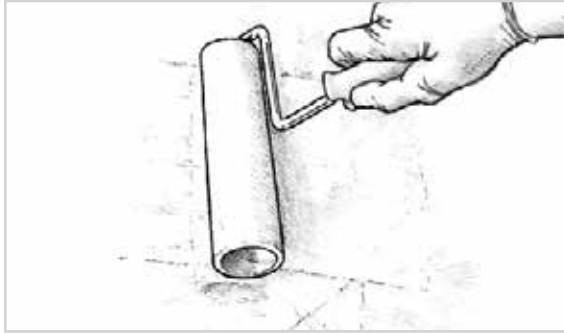

Figure 8-23 Apply the epoxy in thin even coats using a thin foam roller.
4. Roll lightly and randomly over an area approximately 2'x2' (60 cm x60 cm) to transfer the epoxy evenly over the area (Figure 8-23).